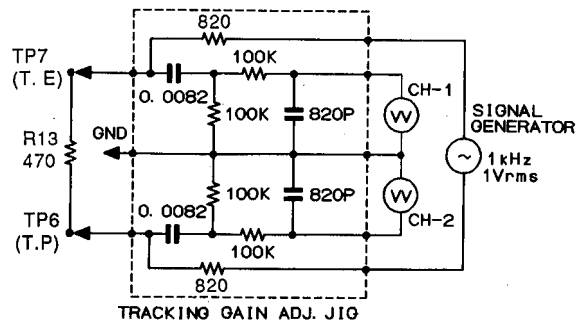

Figure 5-4 TRACKING GAIN
*3: Apply sine wave (Oscillation Frequency: 1.0kHz 1.0Vrms) as shown in Figure 5-4.